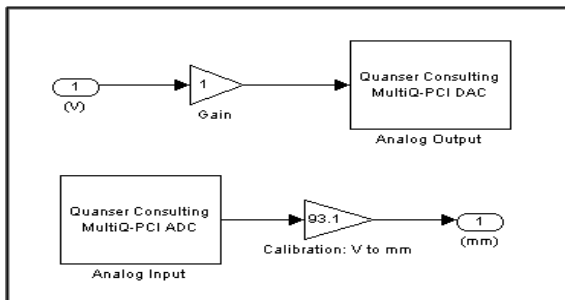

Figure 14 IP01 Subsystem
Step 1. Start a fresh Simulink diagram and create a model that contains a subsystem that has the IP01 motor voltage as input and the potentiometer reading (in mm) as output. Such a subsystem (a.k.a. block) can be seen in Figure 14, below, as combining the models designed previously in Sections Applying a Voltage to the DC Motor and Measuring from the IP01 Cart Potentiometer.